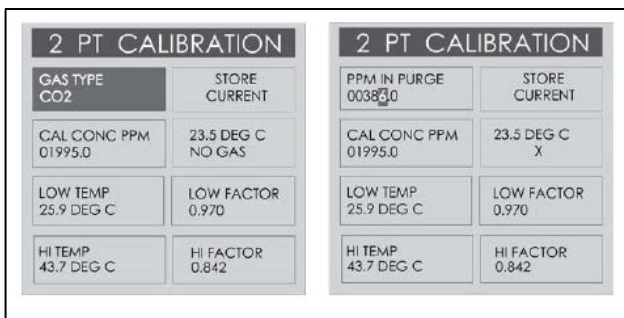

Figure 7-12 - Accessing the CO₂ Atmospheric Concentration Setting (PPM IN PURGE)
3. CO₂ calibration curve options are displayed. Simply press **ENTER** to access the ambient CO₂ concentration setting (PPM IN PURGE). See **Figure 7-12**.